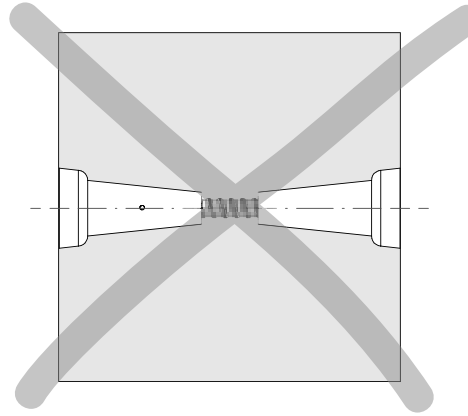

Fig. B1.01
- Each CB Bracket must be individually anchored, and the loosening or dismantling of the anchoring may only take place on the side of the load transfer. The positioning of two cones against each other is not allowed. (Fig. B1.01)